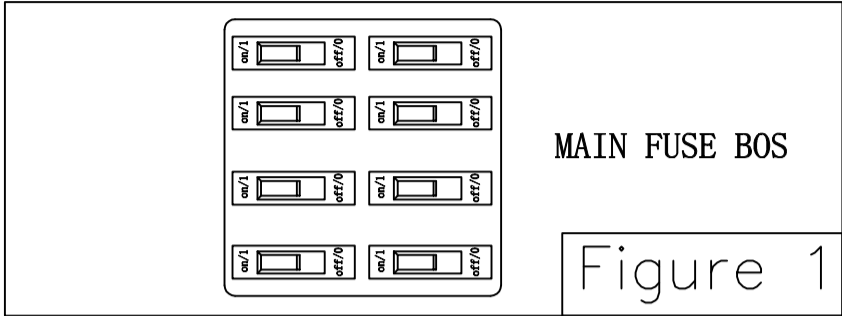

Figure 1
- Remove the hanger ball portion from the downrod/hanger ball assembly by loosening the set screw in the hanger ball until the ball falls freely down the downrod. Remove the pin from the downrod, then remove the hanger ball. Retain the pin and hanger ball for reinstallation in Step 6. (Figure 1)
To avoid possible re or shock,be sure electricity is turned off at the main fuse box before hanging. (Figure 1)